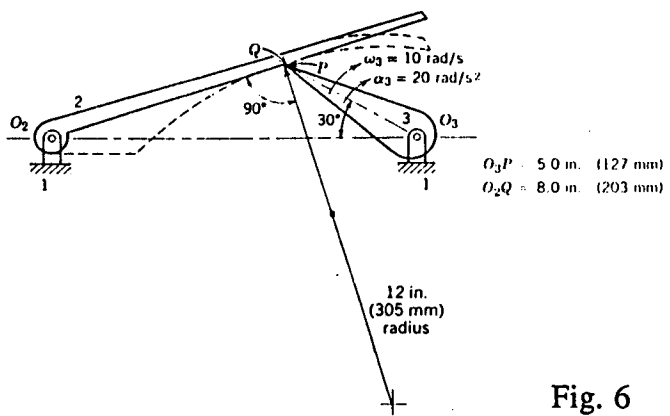

Fig. 6
4. A cam and curved follower are shown in Fig. 6, with point P on body 3 and point Q on body 2. Please complete the velocity and acceleration polygons and determine  $V_Q$ ,  $\omega_2$ ,  $A_Q$ , and  $\alpha_2$ . The scales are 1 cm = 500 mm/s and 1 cm = 2000 mm/s2. [12 points]